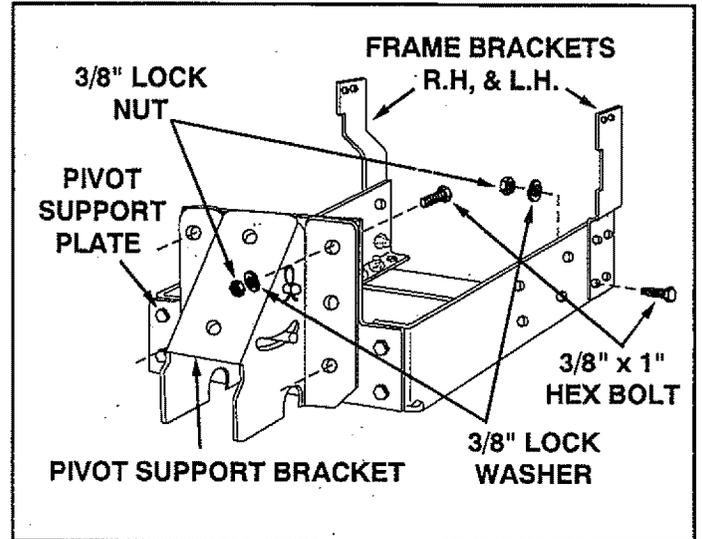

FIGURE 14
- Assemble the pivot support bracket to the pivot support plate as shown in figure 14. Fasten through the top and bottom holes on both sides of the pivot support bracket using four 3/8 inch x 1 inch hex bolts, lock washers and lock nuts. **Tighten.** See figure 14.
**NOTE:** The following assembly requires careful attention to identification and placement of R.H. and L.H. frame brackets. (Refer to **CARTON CONTENTS** on page 3 and to figure 14 below.) The notched edges of the frame brackets should face forward and the bends should angle away from the frame assembly.
- Position the R.H. and L.H. frame brackets as shown in figure 14, aligning the front holes in the frame brackets with the rear holes in the frame. Fasten through the bottom front hole of each frame bracket using a 3/8 inch x 1 inch hex bolt, lock washer and lock nut. **Do not tighten.** See figure 14.